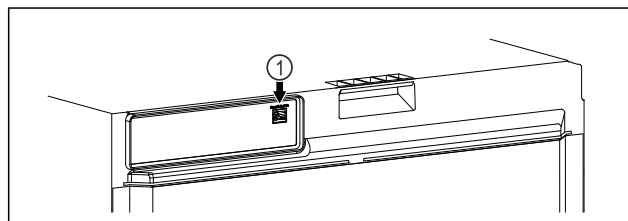

Fig. 104
- ☐ SmartModule Fig. 104 (1) has been inserted.